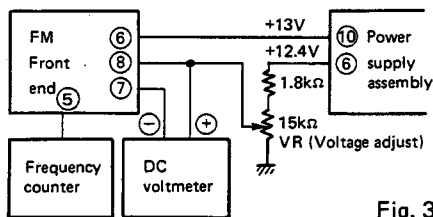

Fig. 35
1. Disconnect the wiring from Terminals 6 and 8 at the FM front end, and connect up a measuring instrument as shown in Fig. 35.